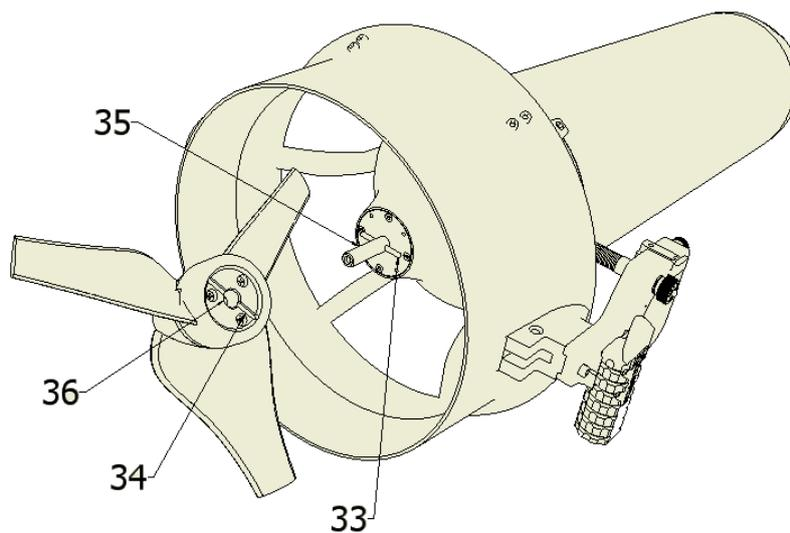

Figure 10
The NiMH battery is made up of 22 1.2 volt cells, connected in sequence, assembled on a plastic support and wired with two connectors, a three colours one for the charger (24) (see fig. 10), and a red one for connection to the ADV engine.